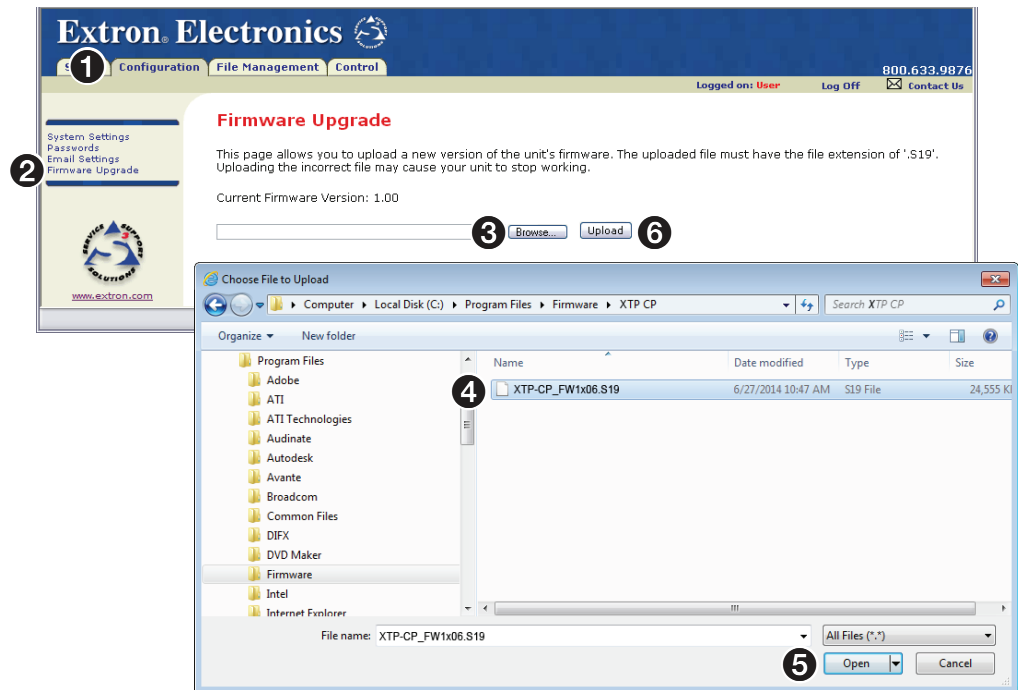

Figure 36. Firmware Upgrade
3. Click the **Configuration** tab (see figure 36, ①).